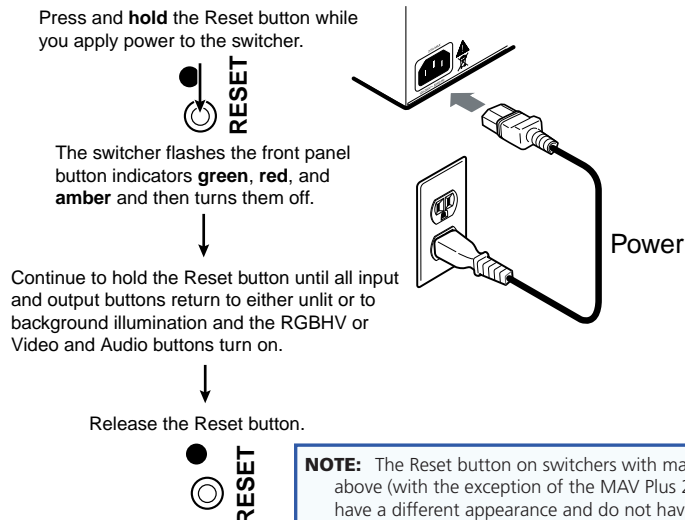

Figure 57. Hard Reset
2. Press and **hold** the Reset button on the rear panel **while** you apply AC power to the switcher (see figure 57).